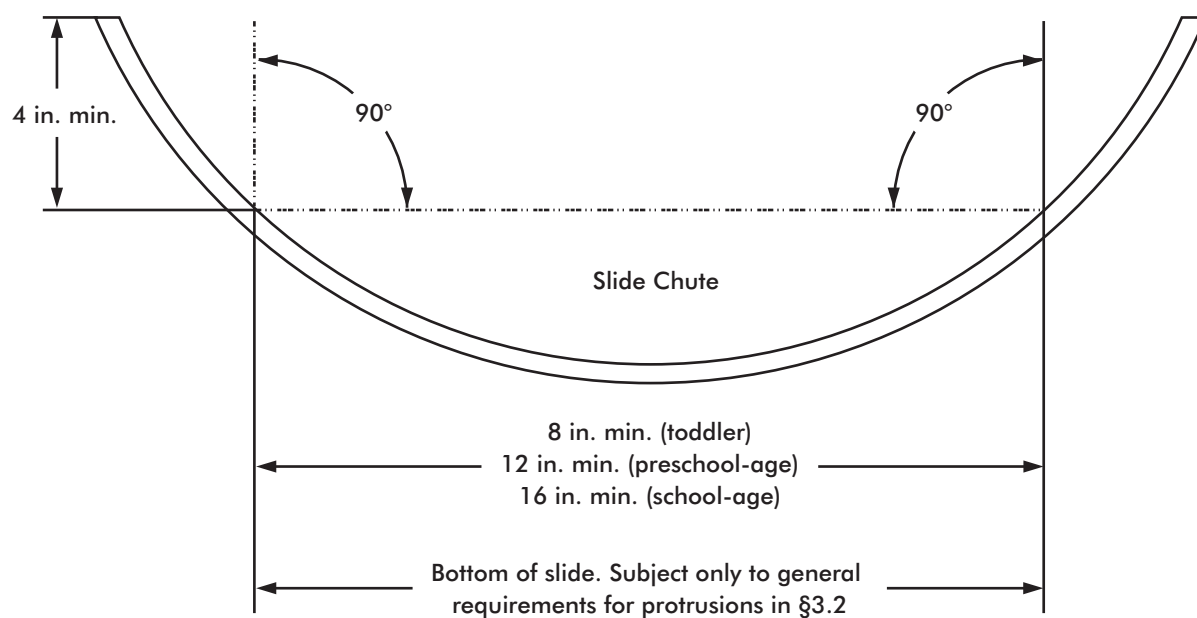

Figure 18. Minimum Side Height for Slide with Circular Cross Section
- A. The vertical height of the sides is no less than 4 inches when measured at right angles to a horizontal line that is 8 inches long when the slide is intended for toddlers, 12 inches long when the slide is intended for preschool-age children, and 16 inches long when the slide is intended for school-age children (Figure 18); or